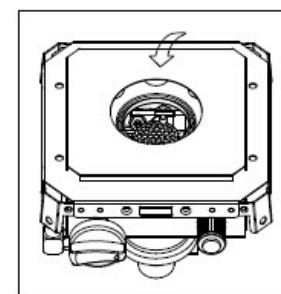

Figure 4
- As you are depressing the control knob, place long stem Lighter through the glass tube to light the pilot (figure 4).